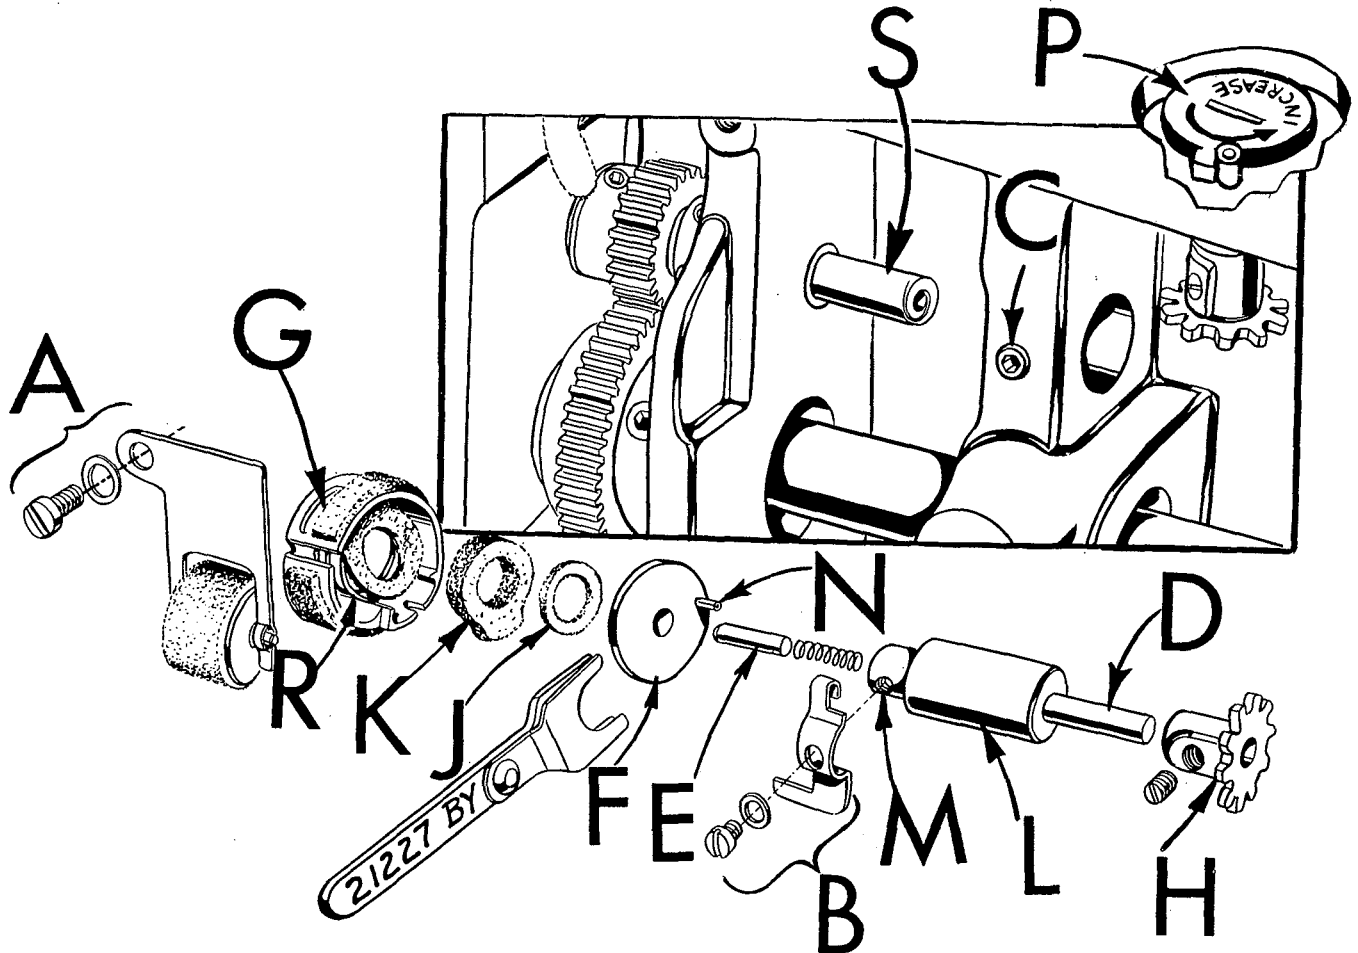

Fig. 23
Hook oiling is accomplished by a high speed rotary pump on the end of the hook shaft. The quantity of oil supplied to the hook is regulated by the longer or shorter path the oil is required to travel through the metering felt of metering cup (G, Fig. 23). (Increase or decrease of oil supply is controlled by a dial (P, Fig. 23) with an arrow marked "INCREASE", found below the cloth plate.) The hook oil feed roller (A, Fig. 23) which rests against the metering cup felt serves not only to feed oil to the unit from the oil reservoir, but filters the oil as well.
1. Remove hook oil feed roller (A, Fig. 23).
2. Remove hook oil control finger (B).
3. Apply finger pressure to hook oil control shaft (D) to prevent loss of pump disc pivot pin (E); using Allen wrench, loosen set screw (C). Move assembly slowly to right, being careful not to drop pivot pin located in the end of the hook oil control shaft. When pivot pin is clear of pump disc (F), disc is free to fall.
1. Remove and separate the air seal felt (J, Fig. 23) from oil supply felt (K).
2. Make sure small end of air seal spring (R) is located on boss of metering cup behind felt attached to cup. Position the metering cup (G) and air seal spring on the hook shaft (S) with open end toward handwheel end of the machine (Fig. 23).
3. Position oil supply felt (K, Fig. 23) on the hook shaft, making certain the felt's projection extends into dovetail of metering cup.
4. Position air seal felt (J) on hook shaft.
6. Insert hook oil control shaft (D, Fig. 23) and its bushing (L) part way into its boss which is located directly behind the hook shaft, being careful NOT TO DROP the pump disc pivot pin (E).